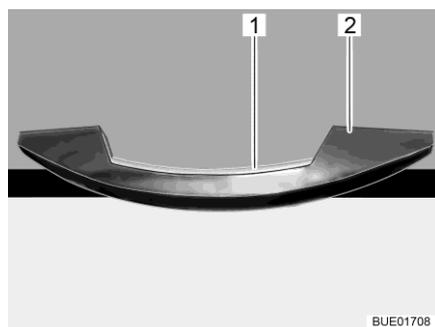

Fig. 67 Handle with unlocking bar (example)
- Press the unlocking bar (Fig. 67,1) and hold it down.
- Pull the handle (Fig. 67,2) until the furniture flap is open.